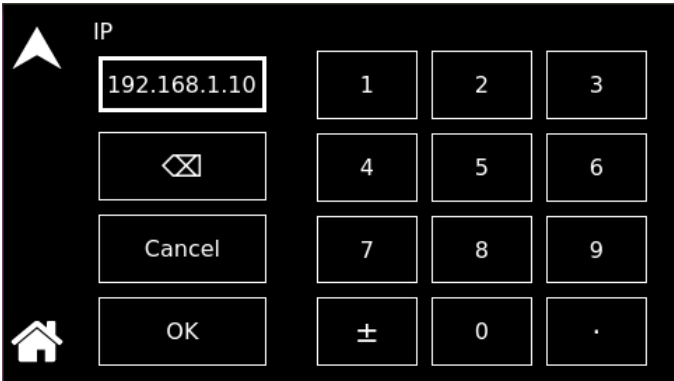

Figure 13-43. LAN Screen - IP Address
- **IP Address:** Sets the static IP address for the unit. When DHCP is turned off in the LAN CONFIG sub-menu, AUTO IP is selected, set the IP address to all zeros so that the IP address would be requested from the network; when DHCP is selected, the IP address is assigned by the network DHCP server. Refer to Figure 13-43.